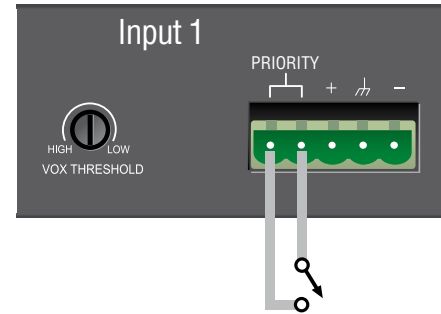

Figure 3.1 Priority Muting Controls and Connectors
2. Connect a push-to-talk mic contact to the Priority Connector (Figure 3.1). Input 1 is the priority input for the amplified output, so Input 1 mutes the other inputs.